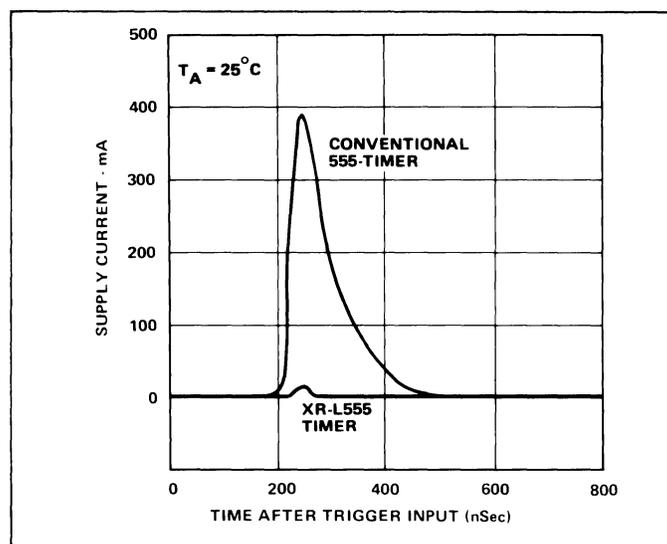

Figure 12. Comparison of Supply Current Transient of Conventional 555-Timer with XR-L555 Micropower Timer
**No Supply Current Transients:** The conventional 555-timer can produce 300 to 400 mA of supply current spikes during switching. The XR-L555 is virtually transient-free as shown in Figure 12.